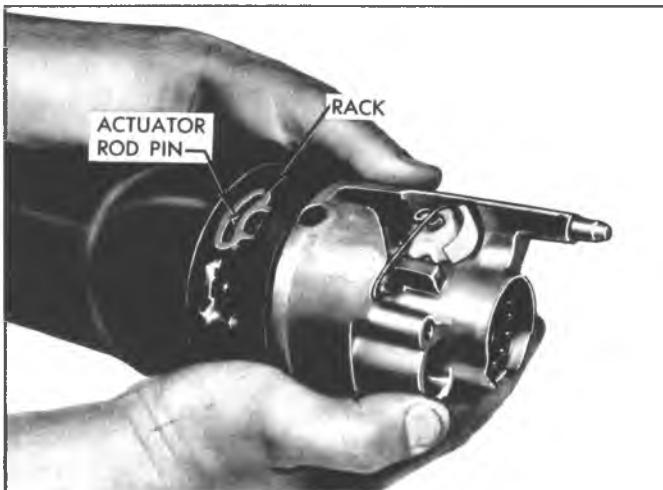

Fig. 80—Installing Bearing Housing
5. Carefully install the shift tube into the lower end of the mast jacket. Align keyway in the tube with the key in the shift lever housing. Install the wobble plate end of Tool J-23073 into the upper end of the shift tube far enough to reach the enlarged portion of the tube. Then install the adapter over the end of the tool, seating it against the lock plate. Place the nut on the threaded end of the tool and pull the shift tube into the housing (fig. 80). Remove Tool J-23073.